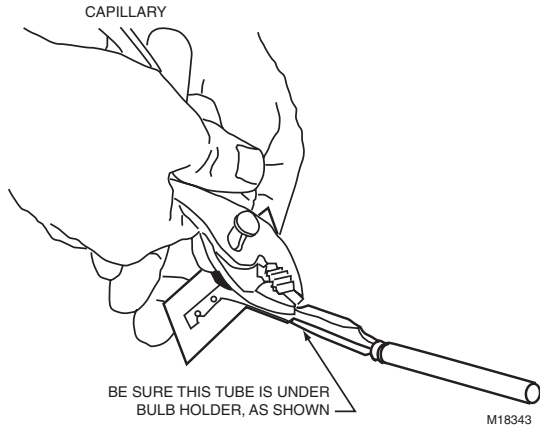

Fig. 9. Mounting the capillary tubing in the bulb holder.
5. Place the capillary tubing in the bulb holder channel and pinch the top edges of the holder together at each segment. See Fig. 9.